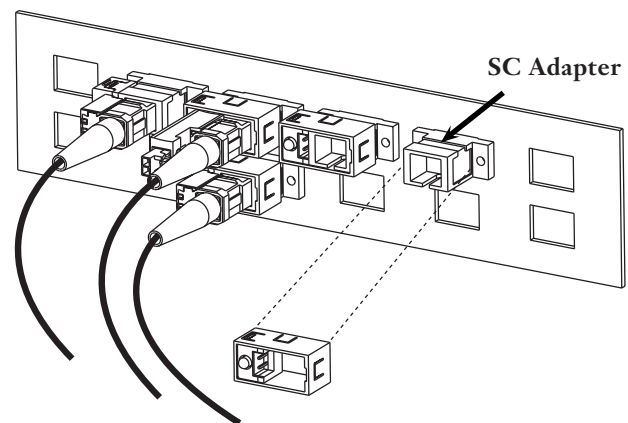

Figure 2
2.1 Identify the adapter's key way location. If the adapter key is on the right side, then position the SearchLite SC Coupler with the LED-mechanism below the adapter. If the adapter key is on the left side, then position the SearchLite SC Coupler with the LED-mechanism above the adapter (Figure 2).
Match the SC adapter's key way location with the SC Connector's key on the SearchLite SC Connector Patch Cord. Insert the SearchLite SC Connector Patch Cord into the SC adapter. Repeat this step to terminate the other end of the SearchLite SC Connector Patch Cord (Figures 2 and 3).